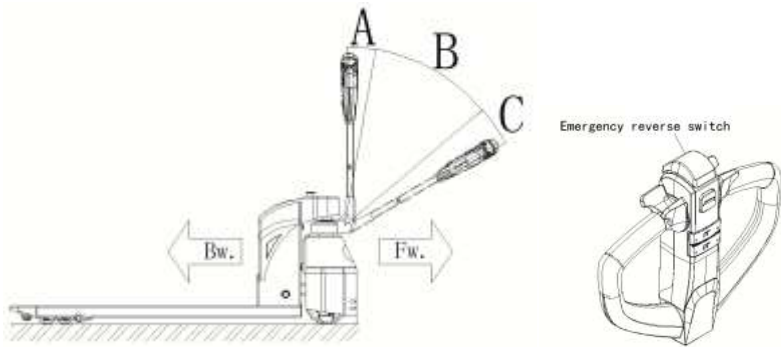

Figure 2-5
4.6 Traveling and braking (as in Figure 2-5)